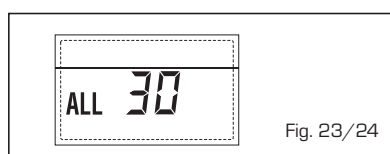

Fig. 23/24
- ANOMALIE SONDE DÉPART CASCADE "ALL 31" (fig. 23/25)